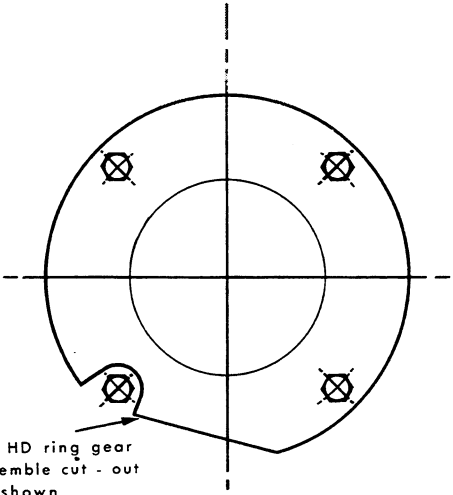

FIG. 5
- Figure 5. Remove the two bolts (78) securing the interlock mechanism. Lift off the locking ball carrier (80) and the two plates (83 and 84). Store the balls carefully.
1. Figure 4. Refit the backplate (33) and the shims (32) to the dowels (31) on the ring gear (34), then locate the dowels in the holes in the transmission case. Fit the thrust washers (35 and 37) to the planetary pinion carrier (36) and locate the carrier in the ring gear. Refit the cover plate (38), as shown in Fig. 5. Fit the four bolts (40) and tighten them progressively and evenly to a torque of 4.9 kg/m (35 lb ft).